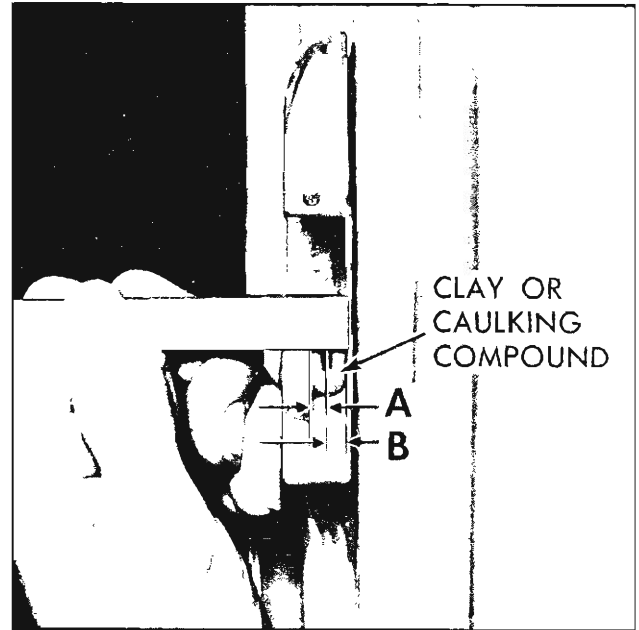

Fig. 97—Tail Gate Striker Engagement Check
- To determine if tail gate lock striker emergency spacers are required, apply modeling clay or body caulking compound in the lock striker notch where the lock extension engages and then close the tail gate to form a measurable impression in the clay or caulking compound, as shown in Figure 97.